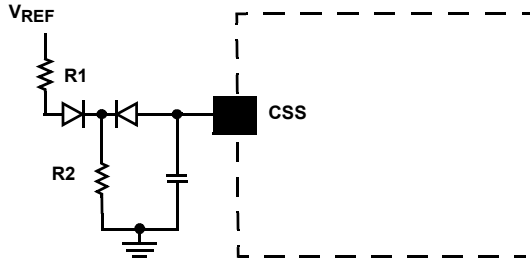

FIGURE 5. REFERENCE-BASED CLAMP CIRCUIT
- Per Equation 3, the clamping voltage is a function of the charge current  $I_{SS}$ . For a more predictable clamping voltage, the CSS pin can be connected to a reference-based clamp circuit as shown in Figure 5. To make the  $V_{clamp}$  less dependent on the soft-start current ( $I_{SS}$ ), the currents flowing through  $R1$  and  $R2$  should be scaled much greater than  $I_{SS}$ . The relationship of this circuit can be found in Equation 4.